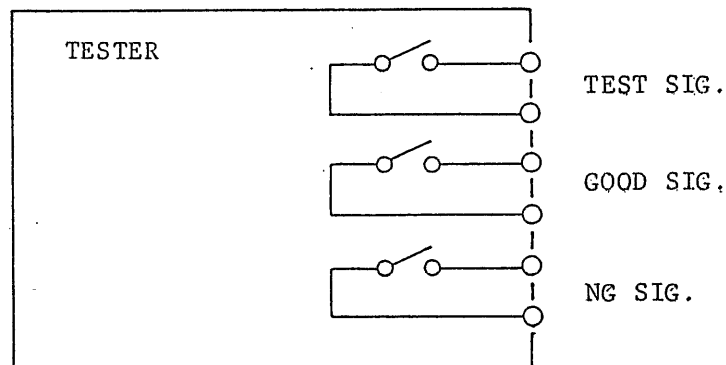

Figure 4.8
①	TEST	During test period	Make-contact signal Ratings: 100 V AC, 1 A 30 V AC, 1 A
②	GOOD	For 200 msec when test is over
③	NG	When NG judgment is made
- ① TEST ON signal: This signal is generated and remains on for the entire period of the test.
- ② GOOD signal: This signal is generated when the GOOD judgment is done at the end the test with the timer. The signal lasts for approximately 200 msec.
- ③ NG signal: This signal is generated when the NG judgment is done. The signal lasts until the next RESET signal is applied.
(2) Contact Signals
- ① The contact signals are only with contacts and without any power sources as shown in Figure 4.8. Therefore, they cannot drive any loads which have no own power sources.